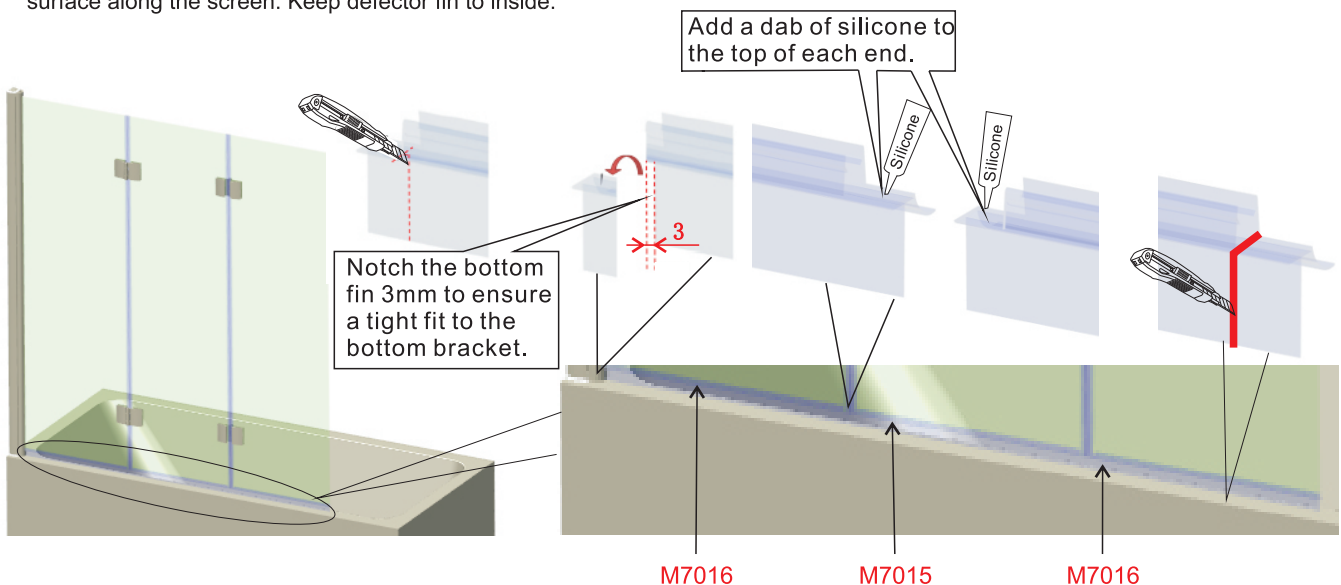

FIG 10
10. Fix the bottom seal. **Fig 10.**